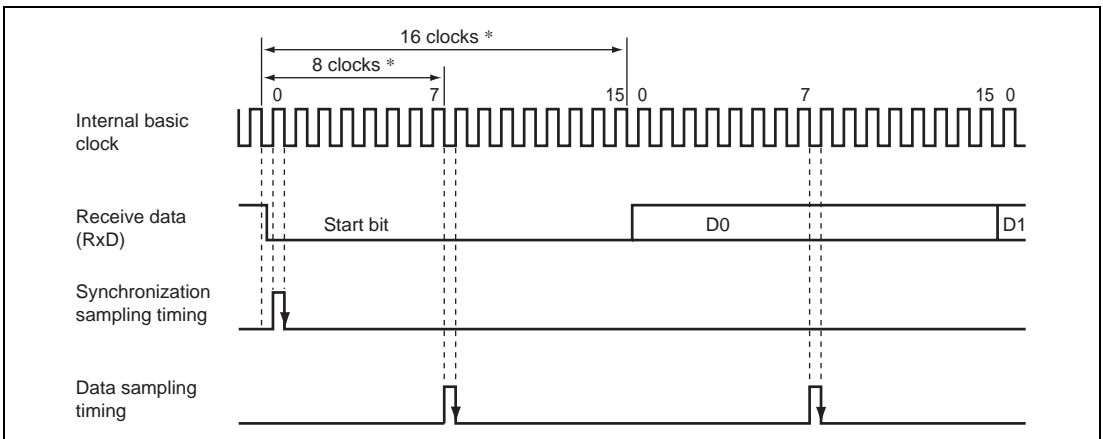

Figure 12.6 Receive Data Sampling Timing in Asynchronous Mode
In asynchronous mode, the SCI operates on a basic clock with a frequency of 16 times* the transfer rate. In reception, the SCI samples the falling edge of the start bit using the basic clock, and performs internal synchronization. Receive data is latched internally at the rising edge of the 8th* pulse of the basic clock as shown in Figure 12.6. Thus, the reception margin in asynchronous mode is given by formula (1) below.
Note: * Figure 12.6 shows an example when the ABCS bit of SEMRA_0 is cleared to 0. When ABCS is set to 1, the clock frequency of basic clock is 8 times the bit rate and the receive data is sampled at the rising edge of the 4th pulse of the basic clock.